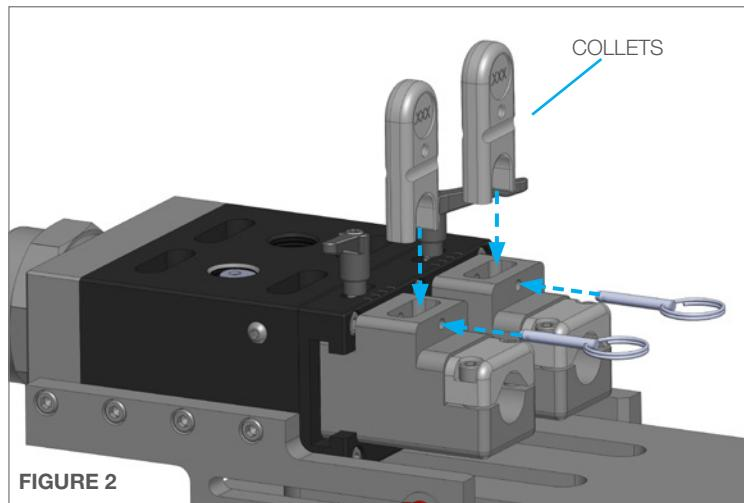

FIGURE 2
- Each **Fin Fan Hose Guide Assembly** should come with the **Collets** and **Guide Tubes** installed. If they need to be changed or installed, do this before installing the Guide onto the Light Weight Positioner. The two lance option is depicted here, but there will be an additional Collet and Guide Tube for the three lance option. Remove Quick Release Pins and insert Collets. Replace the Quick Release Pins being sure they are through the holes in each Collet. (**Figure 2**)